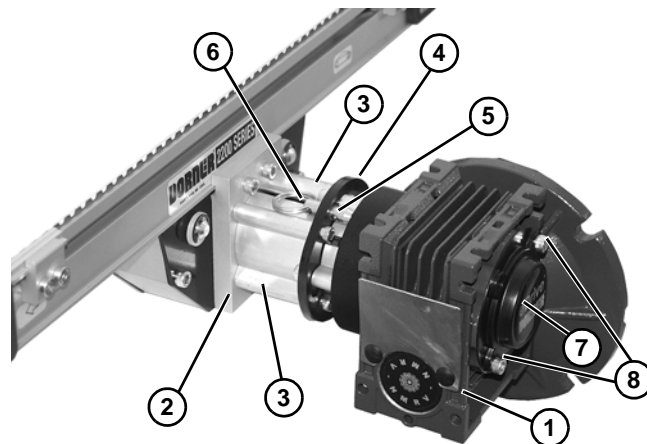

Figure 10
2. Raise gearmotor assembly (**Figure 10, item 1**) into position on mounting block (**Figure 10, item 2**). Install two long side drive couplings (**Figure 10, item 3**) and mounting ring (**Figure 10, item 4**) with four M6x70 socket head screws (**Figure 10, item 5**). Tighten screws to 60 in-lb (7 Nm).
3. Install quick release pin (**Figure 10, item 6**) into mounting ring to secure position.
4. Install motor onto gearmotor assembly (**Figure 10, item 1**). Tighten M6 motor mounting screws to 60 in-lb (7 Nm).
5. Install cover (**Figure 10, item 7**) with two M4 socket head screws (**Figure 10, item 8**). Tighten screws enough to secure cover.